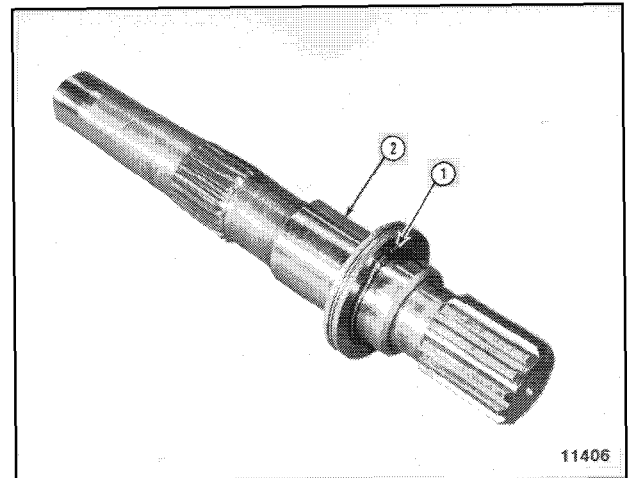

Figure 18
32. Remove retaining ring (1, Figure 18) from drive shaft (2).